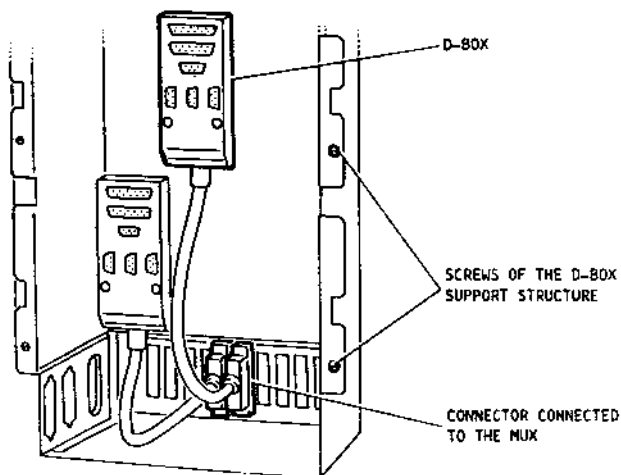

Fig. 2-19 D-BOX Support
- Remove all D-BOXes and connectors connected to the MUX (see figure 2-19)
- Unscrew the four screws of the D-BOX support structure (see figure 2-19)
- Remove all D-BOXes and D-BOX connectors connected to the MUX (see figure 2-19)
- Unscrew the four D-BOX support structure screws (see figure 2-19)
- Remove all the D-BOXes and connectors connected to the MUX (see figure 2-19)